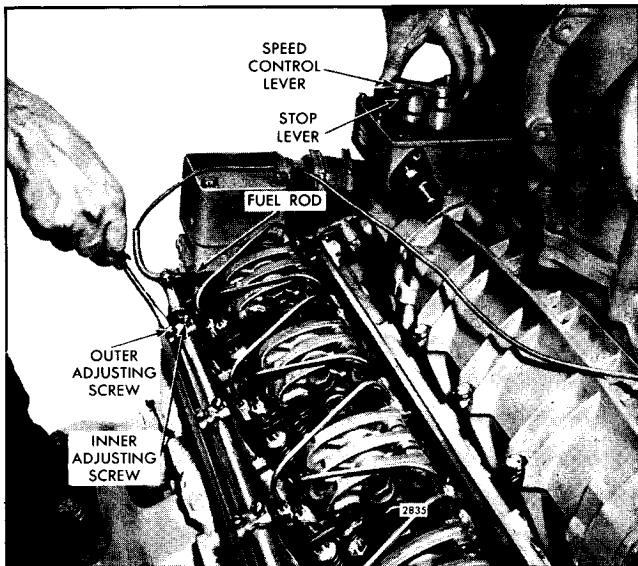

Fig. 2 - Positioning No. 1 Injector Rack Control Lever
8. Move the governor speed control lever to the maximum speed position; hold in that position with light finger pressure. Turn the inner adjusting screw of the No. 1L injector rack control lever down until a step up in effort is noted (Fig. 2). This will place the No. 1L injector rack in the FULL FUEL position. Turn down the outer adjusting screw until it bottoms lightly on the injector control tube. Then alternately tighten both the inner and outer adjusting screws.